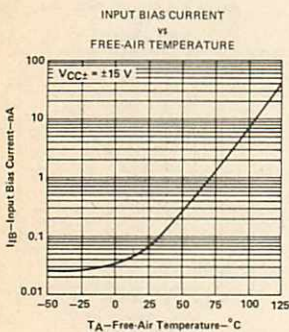

FIGURE 18
*Input bias currents of a FET-input operational amplifier are normal junction reverse currents, which are temperature sensitive as shown in Figure 18. Pulse techniques must be used that will maintain the junction temperatures as close to the ambient temperature as is possible.